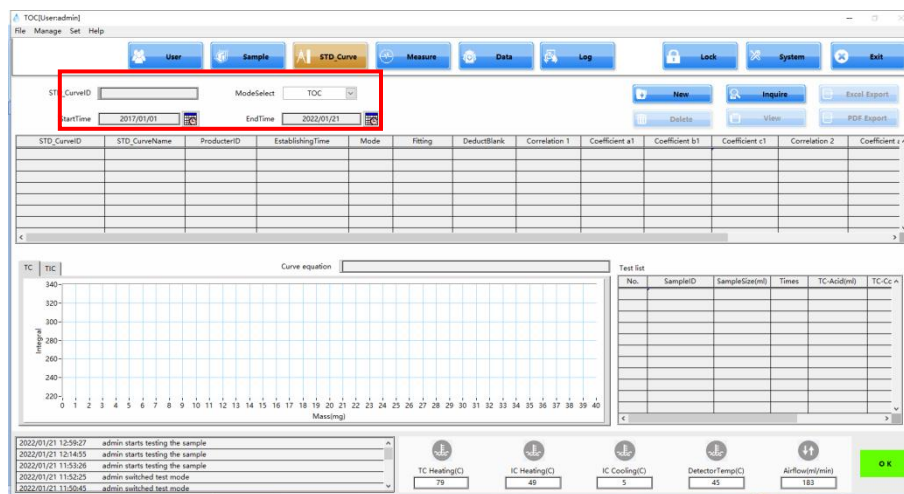
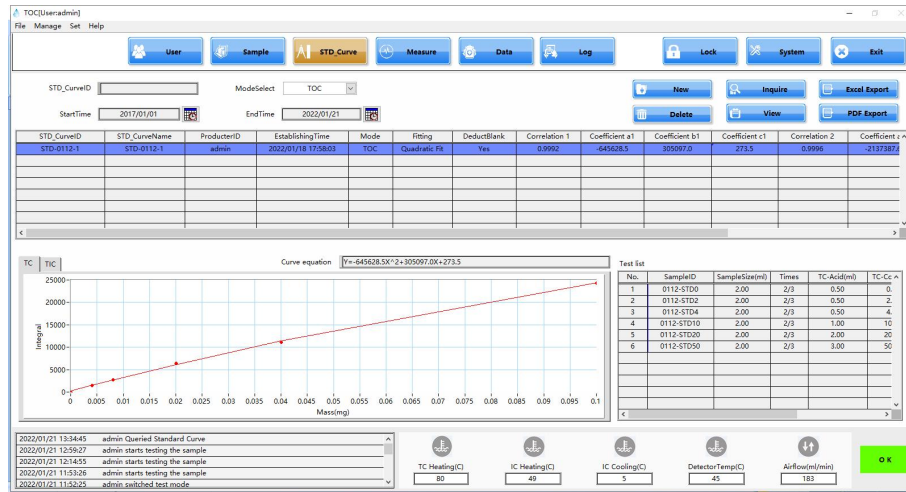

Fig 4.86
Fig 4.87
1. Click  to enter the STD_Curve management interface (Fig 4.86).
1. After setting the index such as 'Mode Select', 'Start Time', 'End Time', 'STD_Curve ID' (Fig 4.86), click . Then select the STD_Curve need to be exported (Fig 4.87).